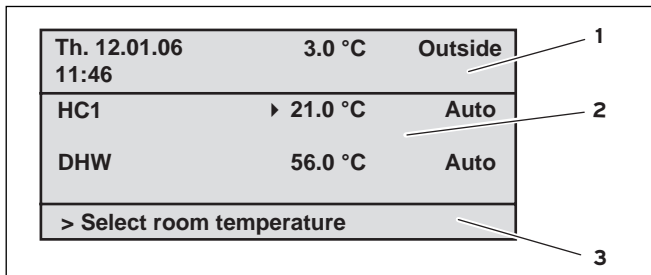

Fig. 4.2 Overview displays (example basic display)
- Basic display (Fig. 4.2)
The operating concept described below applies to the basic display (Fig 4.2) and the various display/input screens in the operator level.
Initial situation: You are now in the basic screen (see Fig. 4.2). Instructions for accessing the basic display are given in Chapter 4.3.3
Click one or both of the dials to move from the simplified basic display to the next screen (see Fig. 4.2).